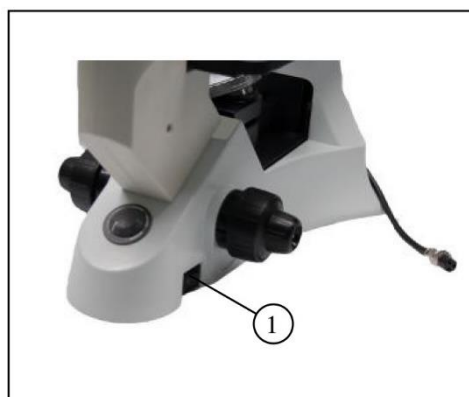

Figure 12
2.2.9. Connecting the power cord (Figure 12, 13 and 14)
2.2.10. Replacing the fuse (Figure 12 and 13)